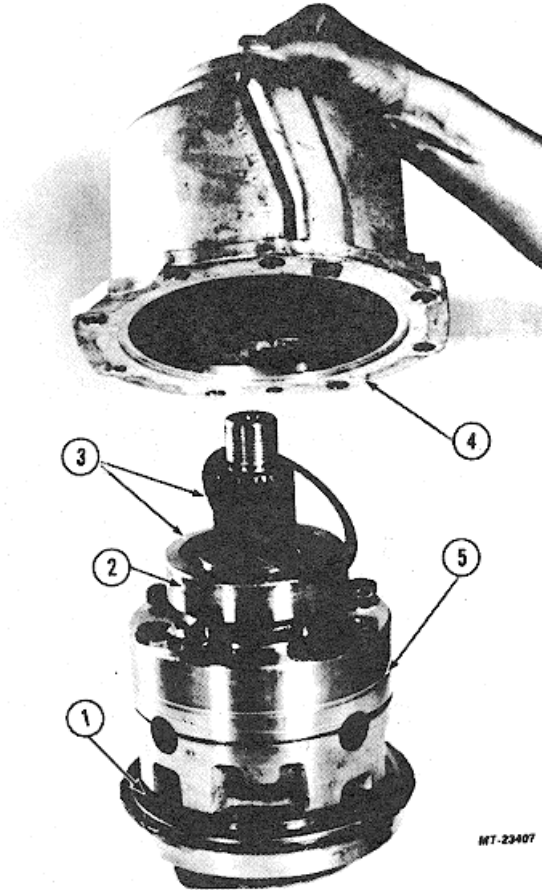

Fig. 8. Cover Removed. Note Shims Which Limit Diff Case to Cover End Play
4. Note and retain shims located between front bearing and cover. These shims limit end play of differential assembly in cover (Fig. 8).